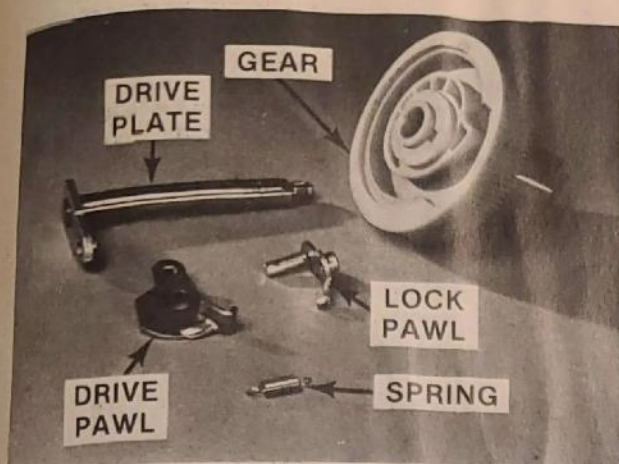

Fig. 44. Disassembly of Drive Mechanism
9. Disassemble drive pawl, lock pawl and spring from drive plate from gear (fig. 44). Obtain replacement parts as required.